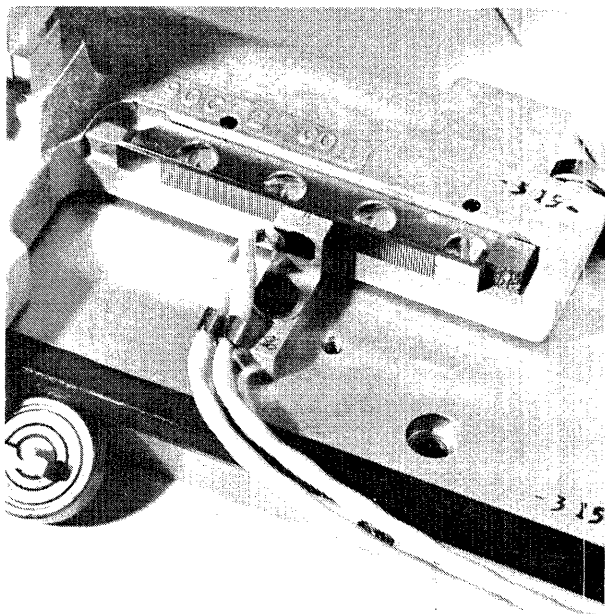

Figure 5-39. Index Rack
- c. Remove four screws fastening index rack to carriage. Remove index rack (see Figure 5-39).